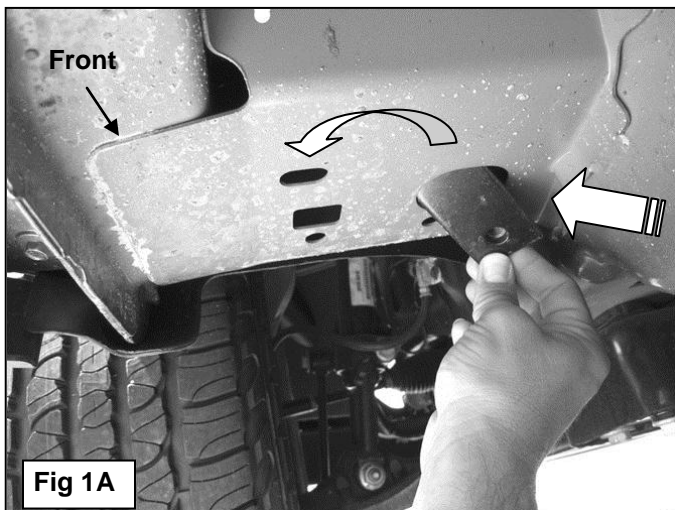
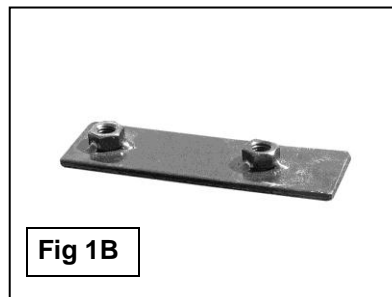

Fig 1A
Fig 1B
- Start installation from under the driver side of the vehicle. Locate the front mounting location, **(Figure 1A)**. Select (1) Double Welded Nut Plate, **(Figure 1B)**. Insert Nut Plate into large round hole in floor panel. Line up the Nut Plate with the large round hole and the oval hole in the floor panel.